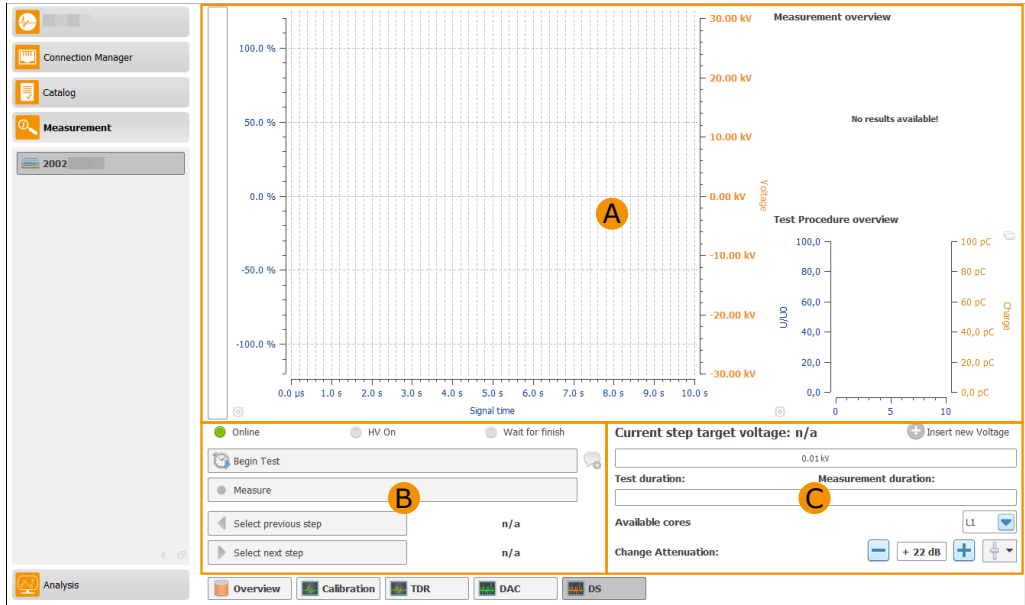
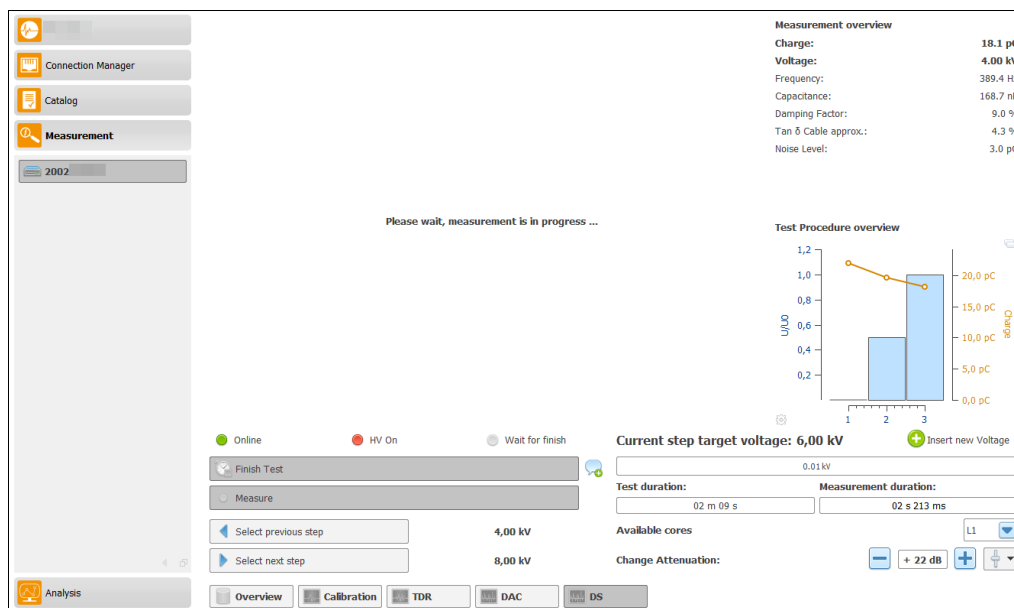

Figure 7.35: Double side measurement overview
Figure 7.36: Disabled result view during running measurement
This chapter describes the UI elements which are available for a Double side measurement in Advanced mode. Figure 7.35 shows the general structure of the measurement surface. **A** displays the measurement results after each high-voltage shot. The **B** section contains buttons that can be used to navigate within a procedure, as well as buttons to perform a test or trigger a shot. **C** displays current data and selects measurement settings.
**A** in Figure 7.35 displays the measurement results of the last shot. The following elements (cf. Table 7.16) are available:
**B** in Figure 7.35 shows elements that are needed to perform a double side measurement. Table 7.17 describes the elements.
**C** in Figure 7.35 contains element for setting the device and displays measurement values. Table 7.18 describes the elements.
For this the first shot can be released by pressing the button *Measure*. This means that the cable is charged up to the specified voltage and the measurement is then recorded. In the area **A** (Figure 7.35) the measured values and the diagram are hidden (Figure 7.36) until the new measured values are available.